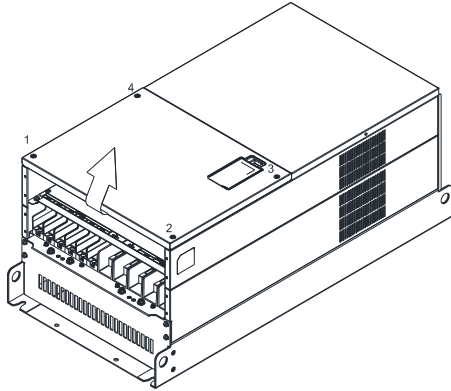

Figure 1
1. Loosen the screw (figure 1) and remove the cover. Screw torque: 12–15 kg-cm / (10.4–13.1 lb-in.) / (1.2–1.5 Nm)